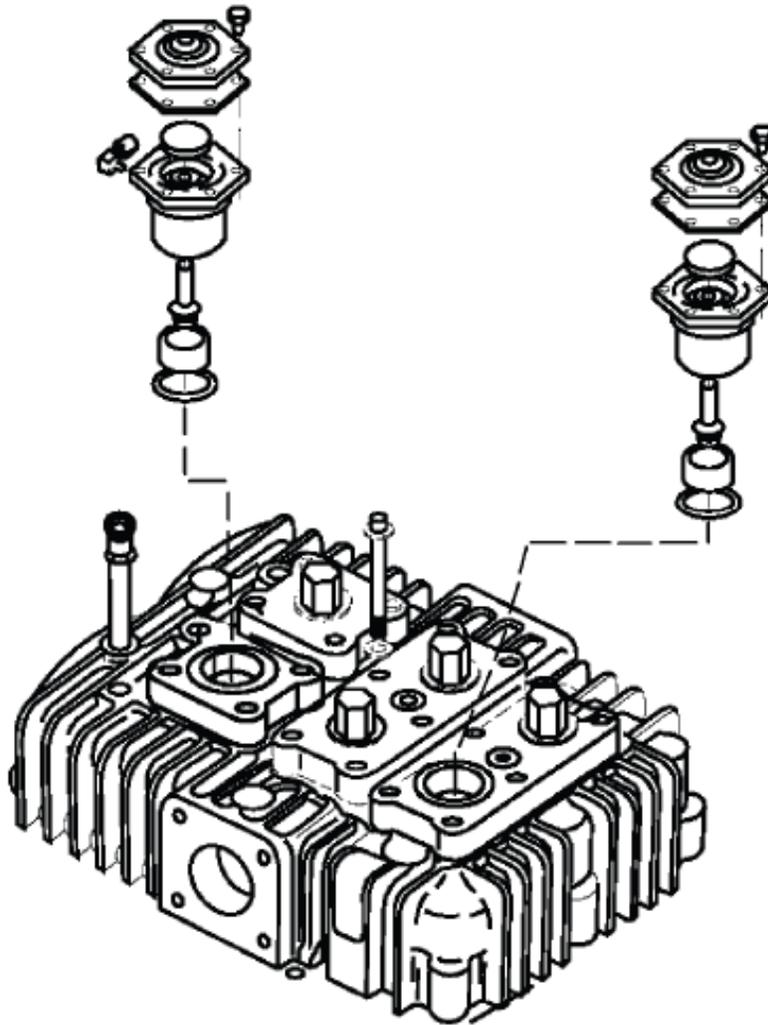

Figure 551-88L-3051\_07
(1) Possible causes.
(2) Actions to take.
- (d) Repair or replace unloaders, (refer to Figure 551-88L-3051\_07).